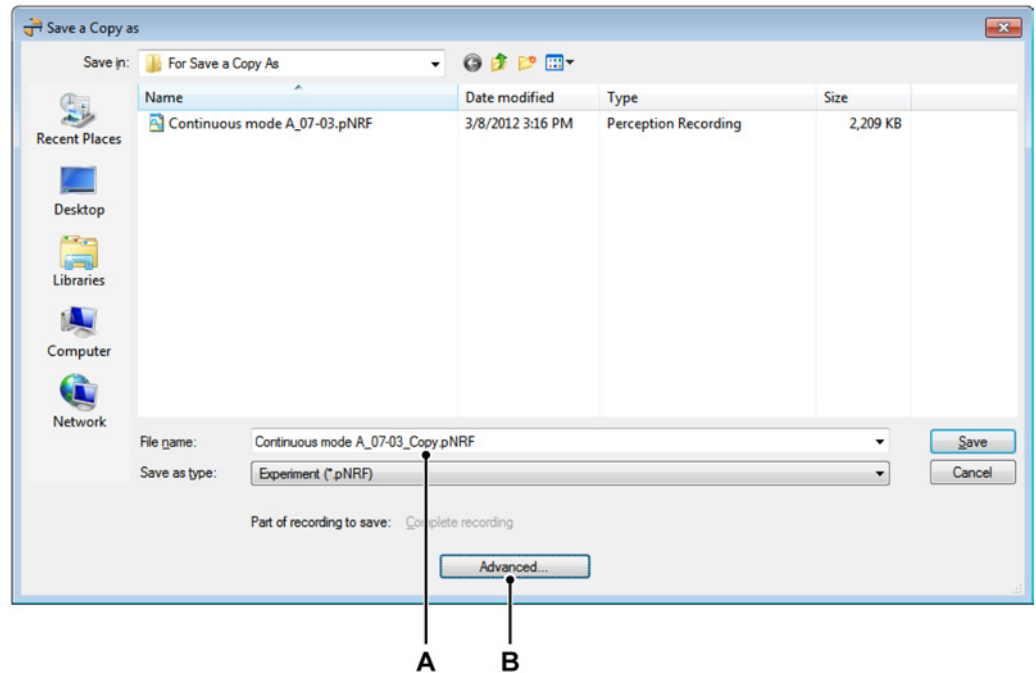

Figure 9.8: Save a Copy As dialog
- 2 In the following dialog (see Figure 9.8) navigate to the new path to save the file as a copy. If needed click the **Advanced** button to get the dialog with the advanced settings.